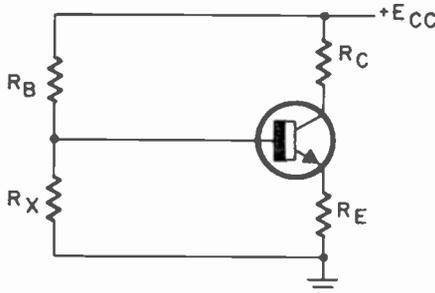
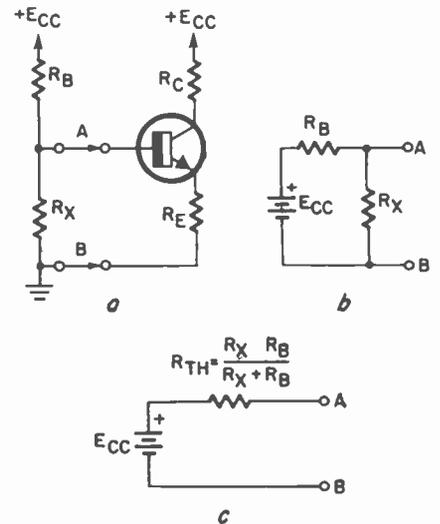

FIG. 10—A SECOND BIAS arrangement designed for improved stability.
FIG. 11—THEVENIN EQUIVALENT of the bias arrangement shown in Fig. 10.
If we take the circuit in Fig. 9 and add resistor R_X from the base to ground, the more complex but more stable circuit of Fig. 10 evolves. To a first approximation, R_X is usually specified as less than ten times the size of R_B .
To analyze this circuit, the simple but extremely useful Thevenin's theorem must be used. By applying this theorem, any linear complex circuit consisting of a voltage source and a passive network can be reduced to an equivalent series combination of a voltage source and a series resistor. This can be done in a few easy steps. For an example of the procedure, let's Thevenize the circuit in Fig. 10. Follow the procedure using Fig. 11.
1. Separate the supply circuit from the load circuit. In Fig. 11-a, this means breaking the circuit at A—B. Redraw the circuit to the left of A—B as shown in Fig. 11-b.
4. Draw the complete Thevenin equivalent circuit. For the bias network in Fig. 11, it is shown in Fig. 11-c.
A common variation of the circuit in Fig. 10 involves adding a second power supply connected to the bottom of R_X . The circuit is shown in Fig. 13. Here, in addition to the Thevenin equivalent circuit, the superposition prin-